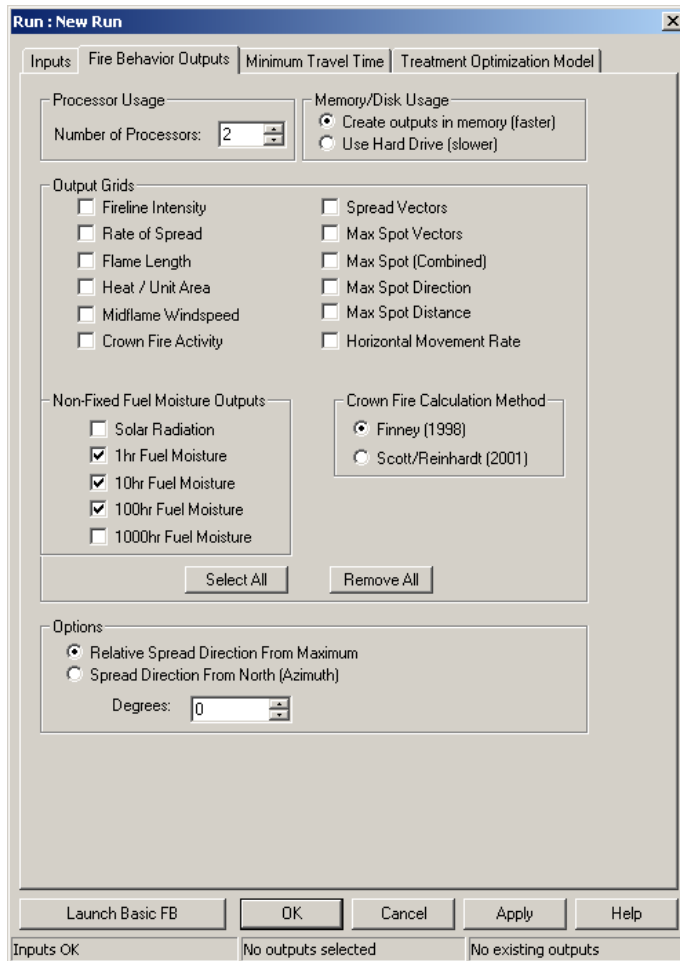

Figure 4-21—Fire Behavior Outputs tab setup to output fuel moistures.
5) Select the **Fire Behavior Outputs** tab (fig. 4-21).
- 8) Select the **Fire Behavior Outputs** tab (see fig. 4-21). Ensure the *1hr Fuel Moisture*, *10hr Fuel Moisture*, and *100hr Fuel Moisture* options are selected, then click **Launch Basic FB**.